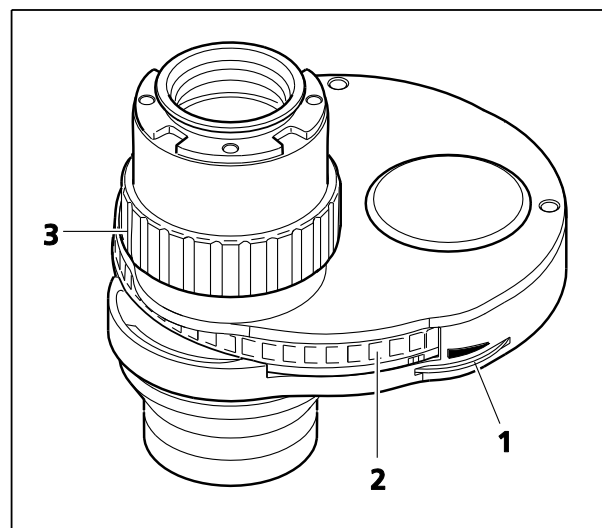

Fig. 2-19 LD Condenser 0.55 for H Ph PlasDIC DIC
- Condenser with an adjustable aperture diaphragm (Fig. 2-19/1) for the bright field position (position 1 of the modulator disk; the aperture diaphragm is completely open for all the other positions of the modulator disk)
- Five-position modulator disk (Fig. 2-19/2) and height adjustment to focus / adapt illumination (Fig. 2-19/3); height adjustment lift: approx. 9 mm